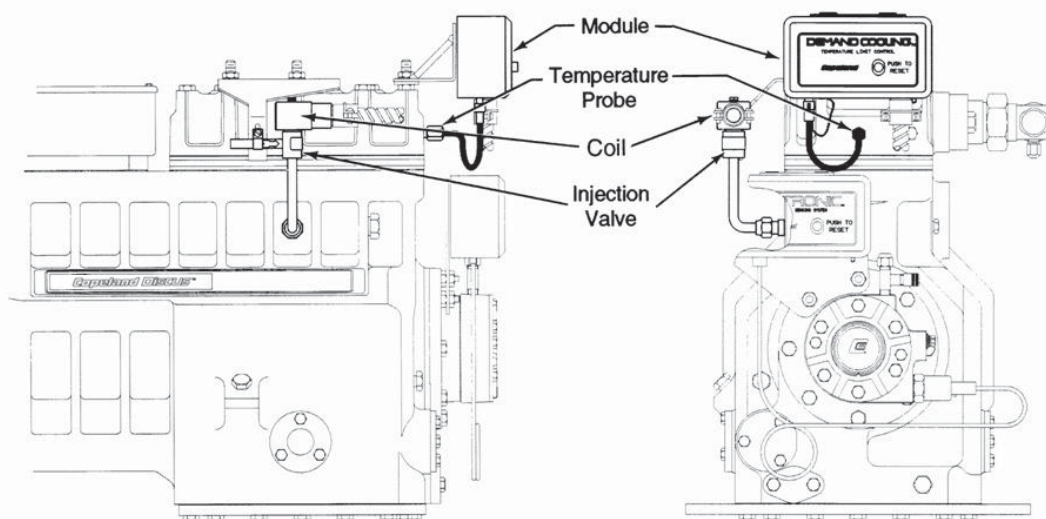

Figure 1 – Demand Cooling System
The Demand Cooling System (see **Figure 1**) consists of: The Demand Cooling Temperature Sensor (TS), The Demand Cooling Module (CM), and the Injection Valve (IV).